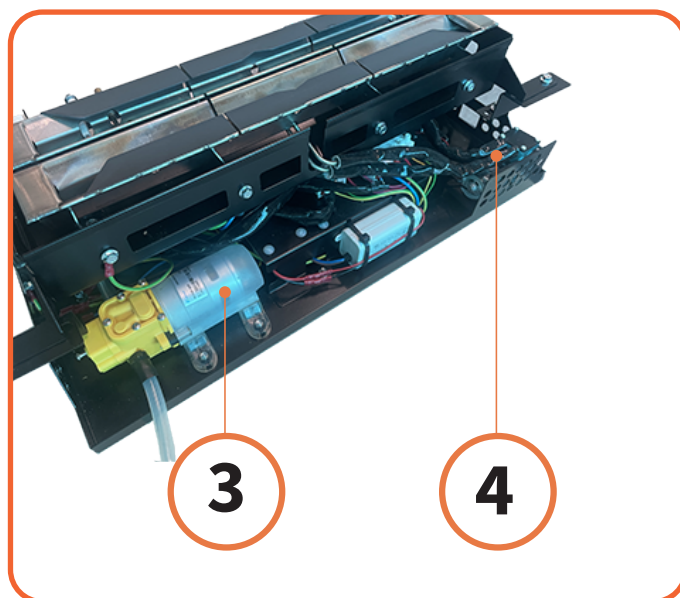

Figure 11.2 | Location of fill pump en fuel pump
- Remove the screws from the upper trim, see Figure 11.2